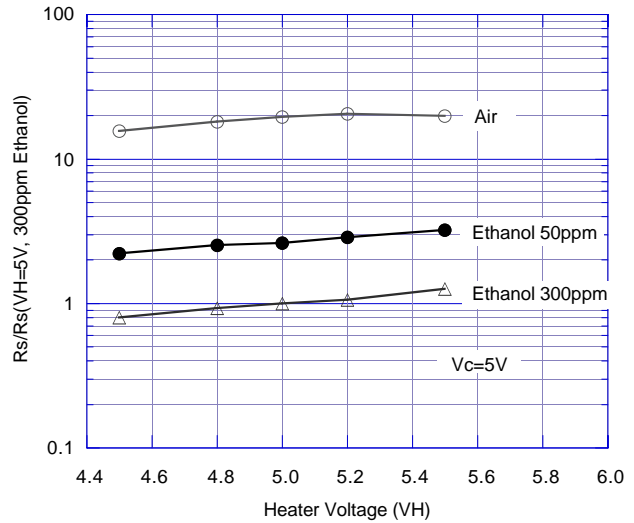

Fig. 8 - Heater voltage dependency (Vc=5.0)
Figure 8 shows the change in the sensor resistance ratio according to variations in the heater voltage (VH).